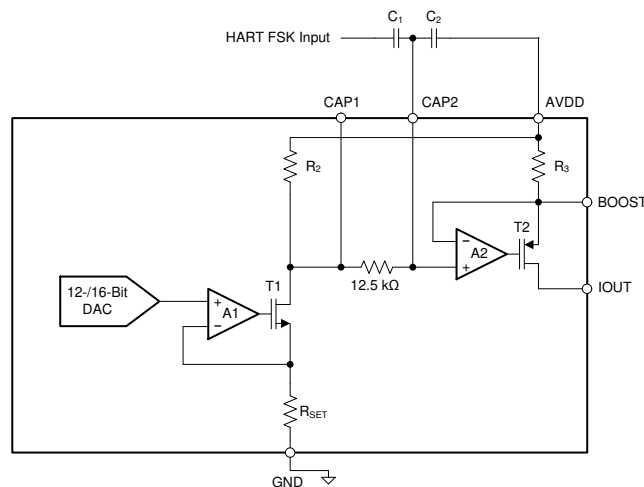

Figure 9-3. Implementing HART on IOU Using the CAP2 Pin
The first method of implementing HART is to couple the signal through the CAP2 pin, as conceptualized in Figure 9-3. Note that this pin is only available in the 40-pin VQFN package.
In Figure 9-3, R_3 is nominally 40 Ω , and R_2 is dependent on the current output range (set by the RANGE bits) as described below:
1. As is seen in Figure 9-3, CAP2 is directly connected to the input of the final IOUT amplifier. Any noise or unwanted ac signal routed near the CAP1 and/or CAP2 pins could capacitively couple onto internal nodes and affect IOUT. Therefore, with the QFN package, it is important to avoid routing any digital or HART signal trace over the CAP1 and CAP2 traces.